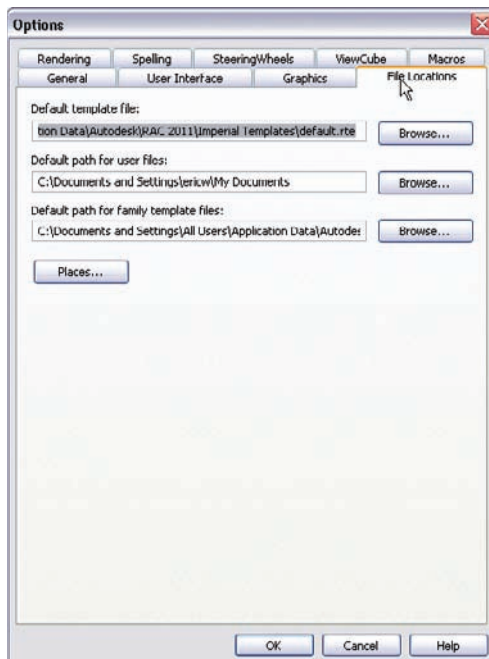

FIGURE 23.4 Finding the new template
2. In the Options dialog, click the File Locations tab, as shown in Figure 23.4.